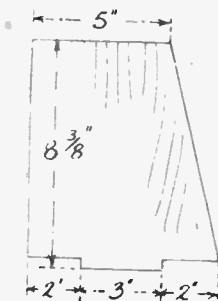

Fig. 4 - End shapes
Some care must be taken in setting out the three uprights (B) to the outline given in Fig. 4. If the base and its mortises have been prepared as mentioned, then the tenons should be carefully checked for length from these before the cutting actually takes place. Glue the parts together and check the angles inside with a set square or a metal try square.